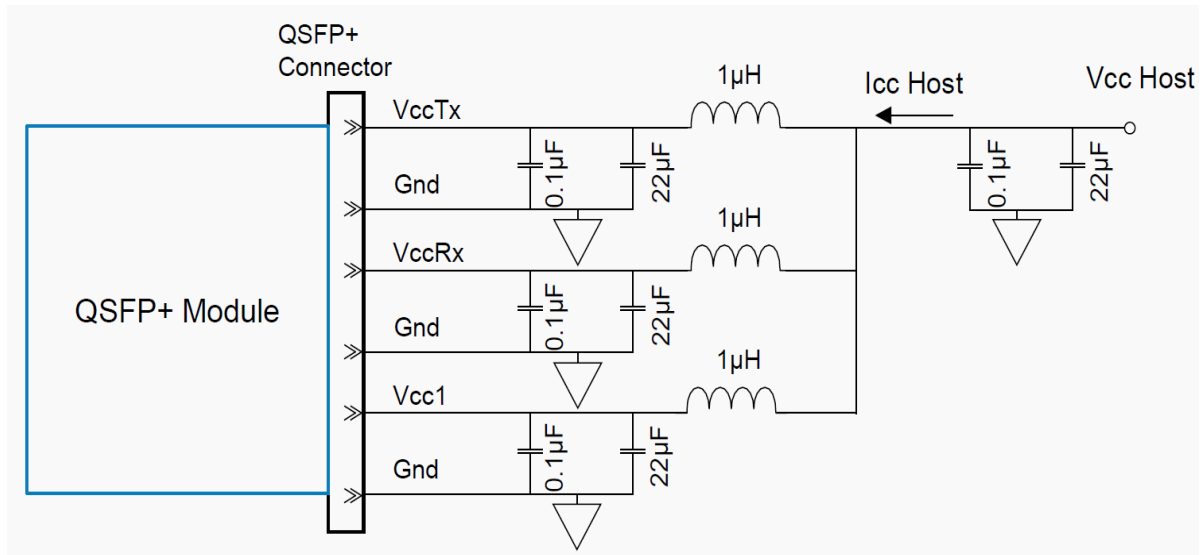

Figure 3. Recommended Power Supply Filter
- VccRx, Vcc1 and VccTx are the receiving and transmission power suppliers and shall be applied concurrently. Recommended host board power supply filtering is shown in Figure 3 below. Vcc Rx, Vcc1 and Vcc Tx may be internally connected within the module in any combination. The connector pins are each rated for a maximum current of 500mA.